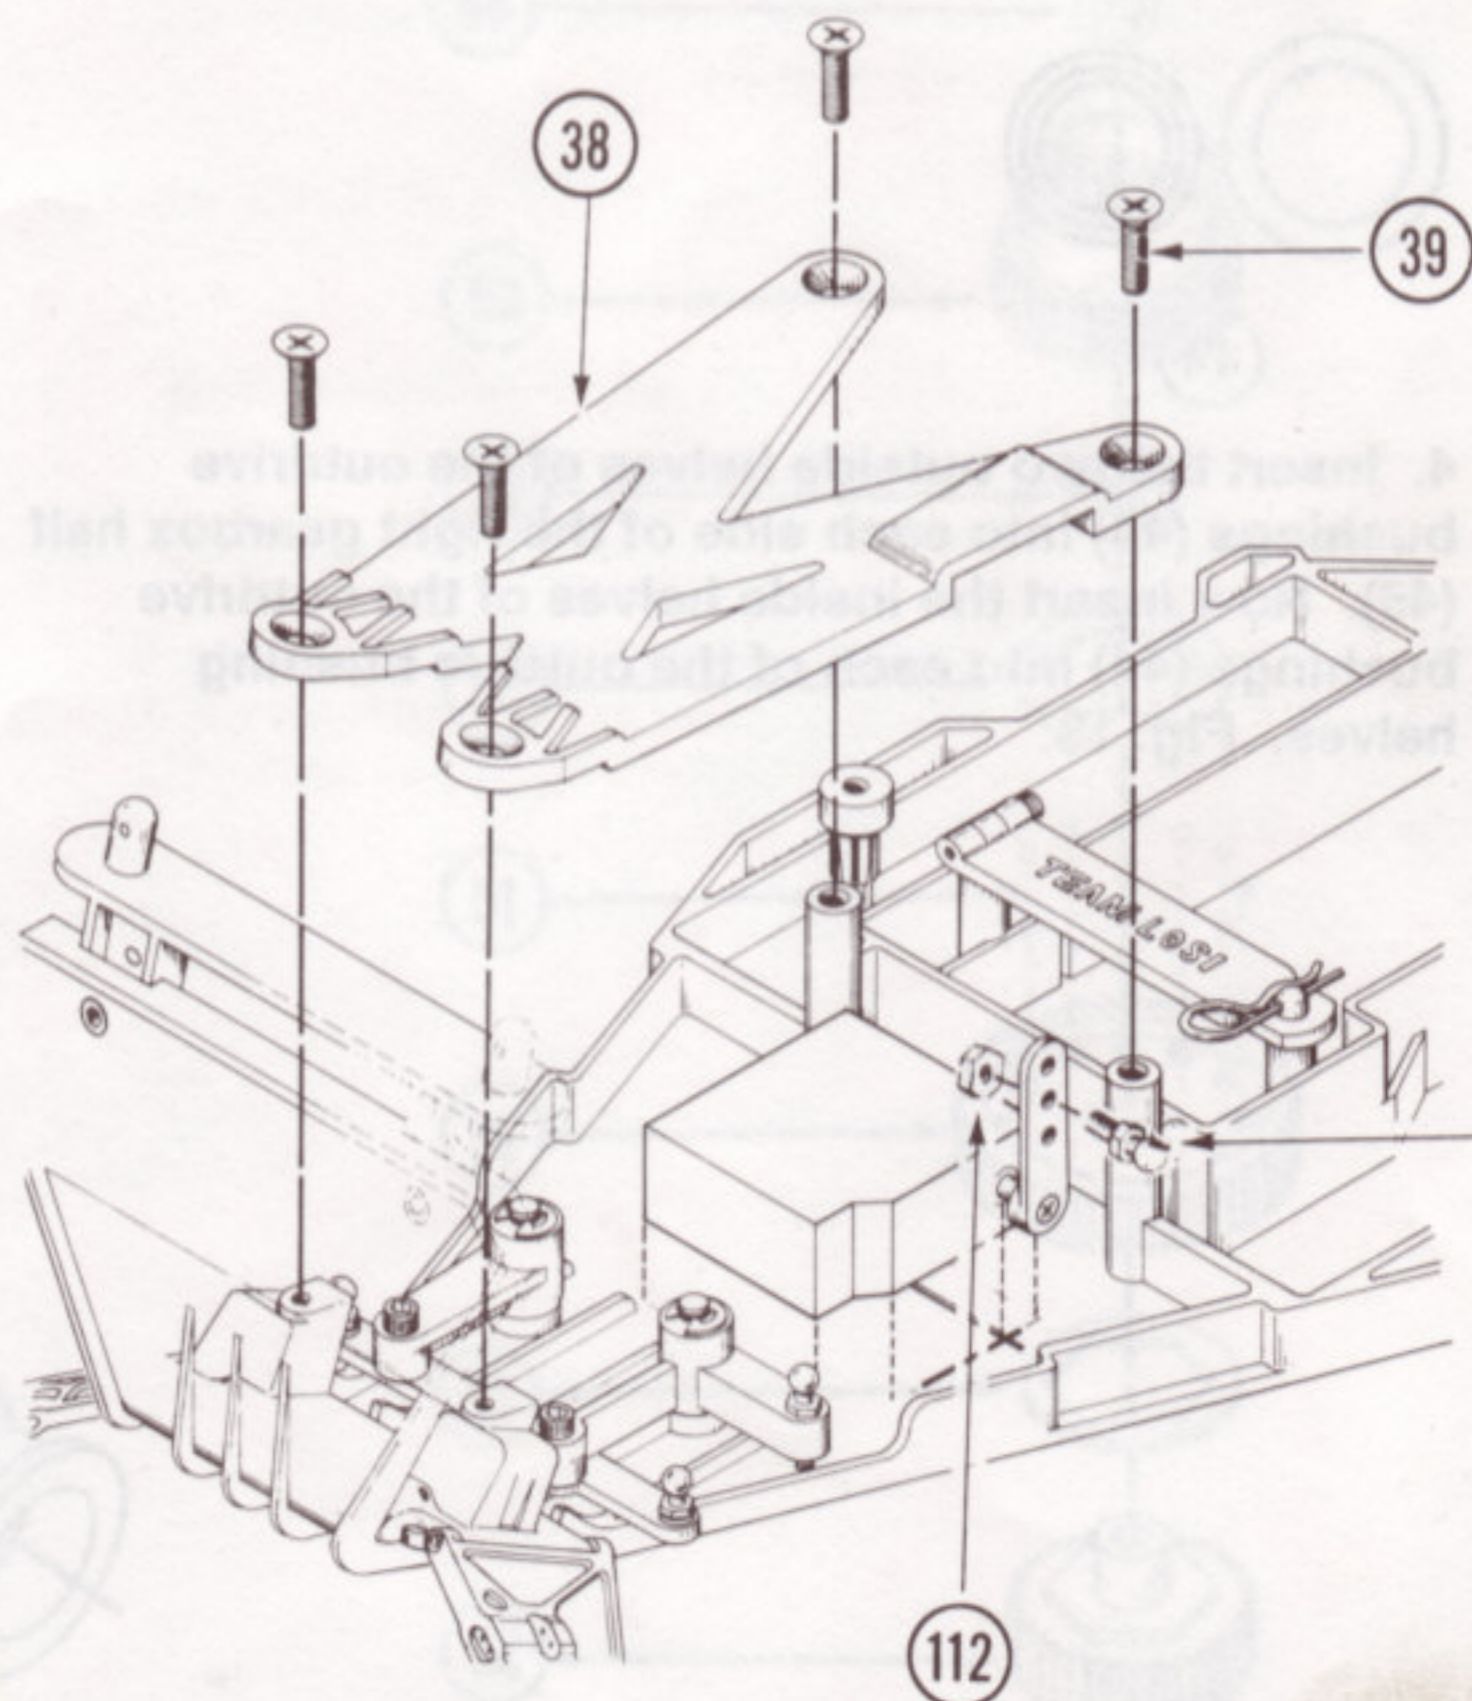

FIG. 16
16. Attach steering servo using servo tape (37) to front of chassis (9) as shown. Fig. 16.
* *NOTE: Be sure servo arm is parallel and in line with the scribe marks on the chassis (9) as shown and a studded ball (22) is in steering servo arm. Fig. 16*
17. Thread an adjustable rod end (34) onto both sides of 1 1/2" threaded rod (35).
18. Thread one 3/16" studded ball (123) into steering servo arm and secure with 4-40 nut (112).
19. Attach one end of 1 1/2" rod (35) onto studded ball (22) in servo saver (25) and other end onto studded ball (123) in steering servo arm.
20. Secure front stiffener (38) to chassis (9) using four 8-32 x 1/2" steel flathead screws (39). Fig. 16.
* *NOTE: Be sure servo arm can travel freely. Screws (39) are silver in color.*